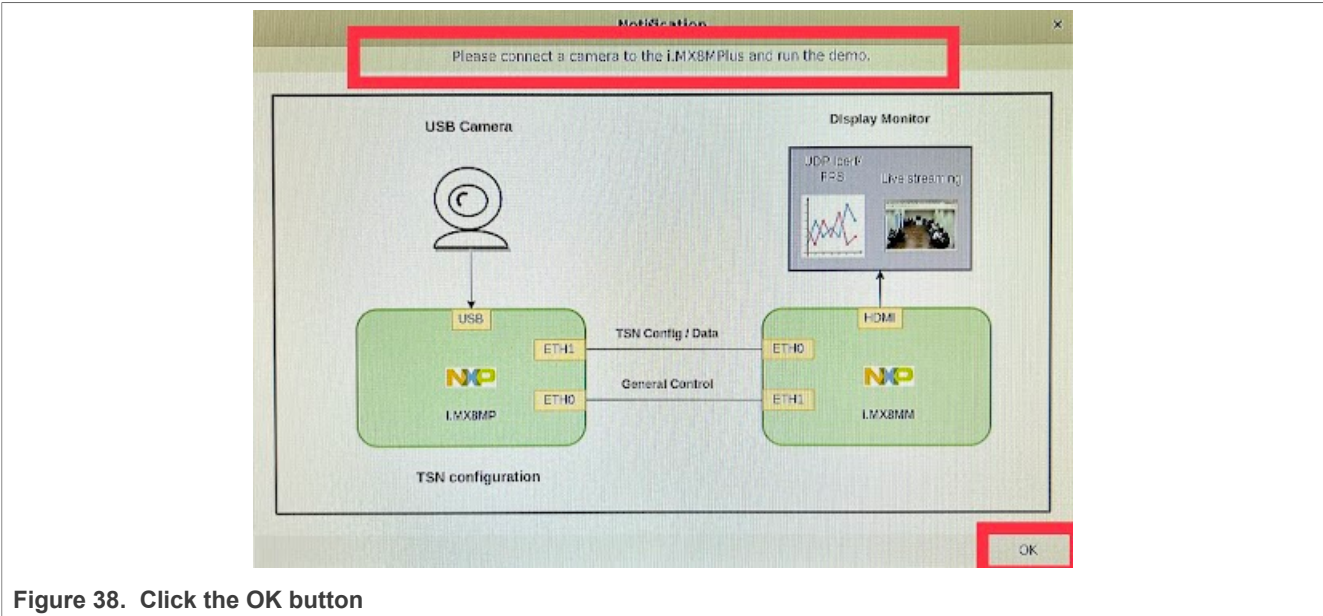

Figure 38. Click the OK button
- If Ethernet connections are successful and the camera is not connected, the window shown in the Figure 38 displays. To get back to the Launch demo window, click the **OK** button.